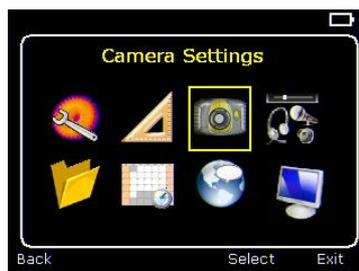

Fig 3.
5. Go back to the main menu and use the left/right navigation buttons to move to the Camera Settings (fig.3.) and press Hotkey 3  to select.